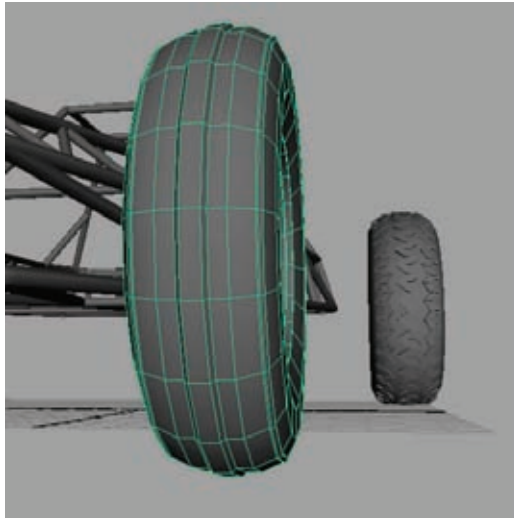

Figure 4.18
21. For the front wheel, you can create whatever kind of tread detail you like. For my own, I used the Extrude tool and a couple of Bevels to create a few raised ridges along the circumference of the wheel—a large, thick ridge in the center and two small, thin ridges on either rounded edge (Figure 4.18).